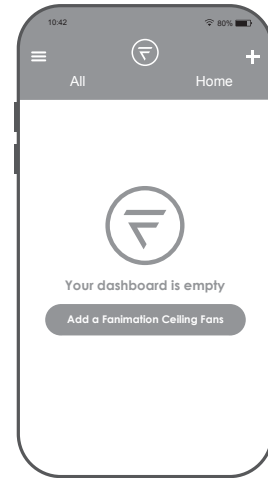

Figure 4
- ☐ **4.** After you have created Fanimation fanSync account, you can add your fans in the APP. (Figure 4)